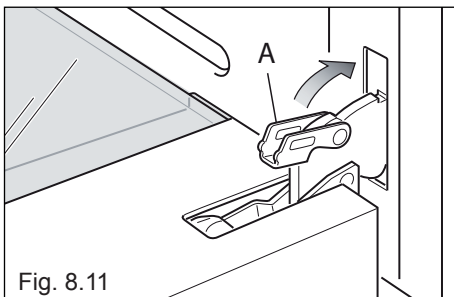

Fig. 8.11
- Unlock the oven door by opening it completely and closing the lever “A” on the left and right hinges (fig. 8.11).